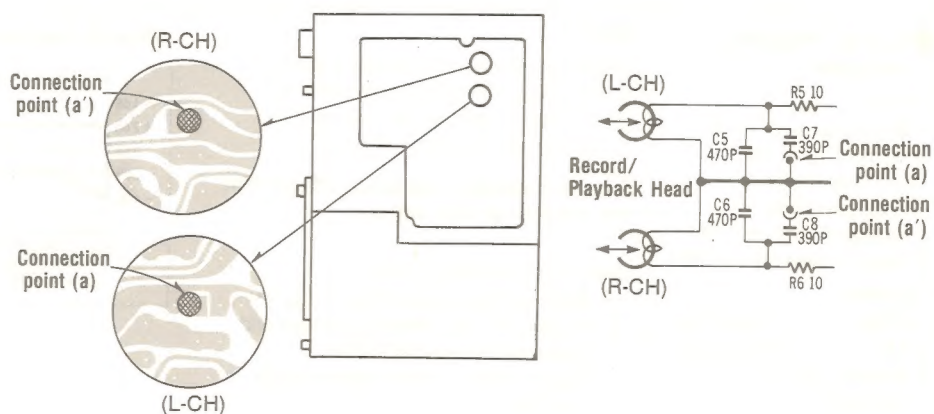
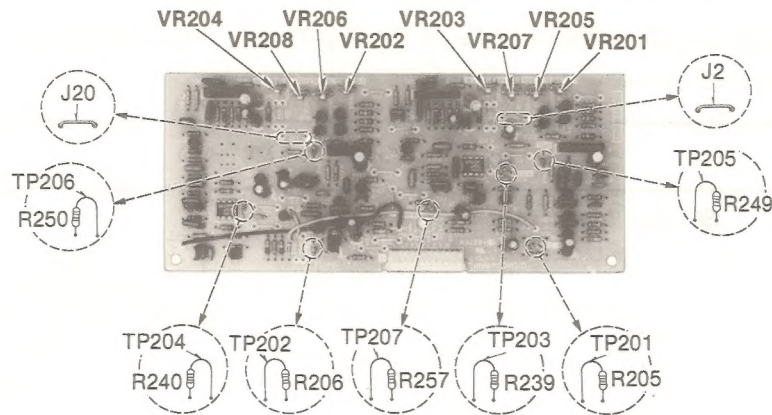

Fig. 10
Fig. 2
1. Open or short the circuit's connection points to adjust playback frequency response (see fig. 10).
<p>② Adjustment of VCA</p> <p>Condition:</p> <ul style="list-style-type: none"> * Record/stop mode * Input level controls ... MAX * Noise reduction selector ... disc/dbx tape <p>Equipment:</p> <ul style="list-style-type: none"> * VTVM * Oscilloscope * Resistor (100Ω, 3.9Ω) 	<p>Preparation before adjustment</p> <ol style="list-style-type: none"> Before adjusting VCA, from the device shown below using resistors of 100Ω and 3.9Ω. (See fig. 8). Set NR switch to dbx disc. Remove jumpers [J2 (L-CH) and J20 (R-CH)]. Arrange connections referring to wire connection diagram (fig. 9 and 10), since 0V, +180mV and -180mV (DC) are applied in this order to pin 2 of IC201 (L-CH) and pin 2 of IC202 (R-CH).  <p>Fig. 8</p>  <p>Fig. 9</p> <p>Connections when applying +180mV and 0V</p> <p>Adjust DC power supply and arrange connections so that +180mV or 0V can be applied to TP203 (L-CH) and TP204 (R-CH).</p>  <p>Fig. 10</p> <p>Connections when applying -180mV</p> <p>Adjust DC power supply and arrange connections so that -180mV can be applied to TP203 (L-CH) and TP204 (R-CH).</p> <p>Adjustment procedure</p> <ol style="list-style-type: none"> Apply 0V to pin (2) of IC201 (L-CH) and pin (2) of IC202 (R-CH), and a horizontal line will appear on the screen of the oscilloscope. Use this line as the reference line. Apply +180mV to pin (2) of IC201 (L-CH) and pin (2) of IC202 (R-CH) (See fig. 9), and check that the level is not more than 10mV from the reference line. If improper, adjust VR201 (L-CH) and VR202 (R-CH). In the same way, apply -180mV to pin (2) of IC201 (L-CH) and pin (2) of IC203 (R-CH) (See fig. 10), and check that the level is not more than 10mV from the reference line. If improper, adjust VR201 (L-CH) and VR202 (R-CH). Repeat steps 2 and 3, and adjust VRs so that the levels are within ±10mV when +180mV and -180mV are applied (fig. 11). After adjustment, connect jumpers J2 (L-CH) and J20 (R-CH) (See fig. 2).  <p>Fig. 11</p> <p>When 0V is applied to pin (2) of IC201 (L-CH) and pin (2) of IC202 (R-CH), this horizontal line appears.</p>